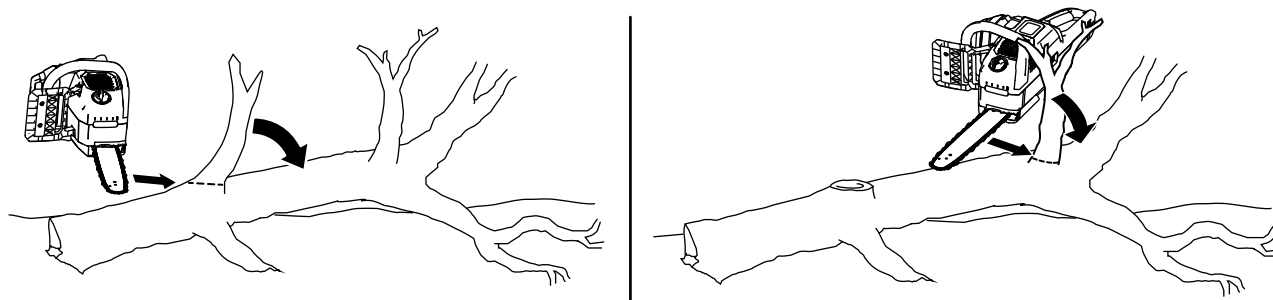

Figure 17
2. Moving from the base of the tree up, cut off the smaller limbs from the tree that are not supporting its weight off the ground (Figure 17).